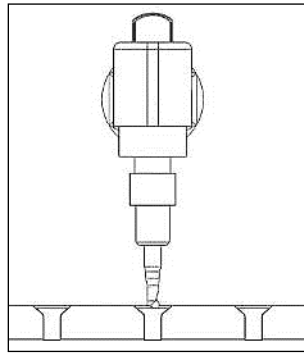

Figure 4. Initial Material Engagement
- 3.2.1. Place the cutting end of the GFR-Bit above fastener filler to be removed. Fully depress the lever on the pneumatic 90 degree grinder. After the pneumatic grinder reaches full speed (approximately 6,000 RPM), slowly plunge the GFR-Bit into the fastener filler until the GFR-Bit makes contact with the fastener head. See **Figure 4**.